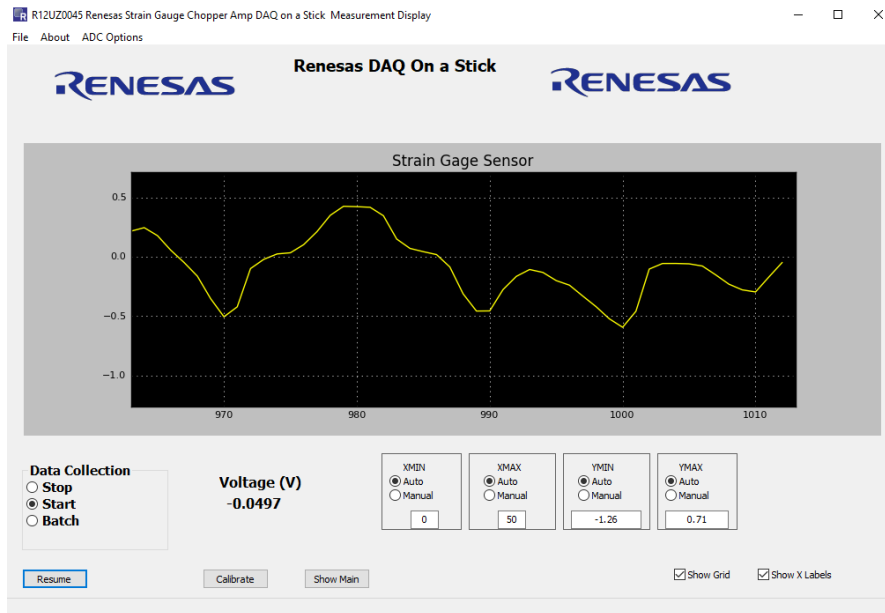

Figure 6. Measurement Display Screen
4. Click **Start** to go to the Measurement Display screen shown in Figure 6. The green LED on the board turns off.
Figure 6 shows the Measurement Display screen. From this screen, you can stop and start data collection, adjust the minimum and maximum X and Y axis, and go back to the setup screen by clicking Show Main. The Calibrate button zeroes out the voltage reading when the board is not under strain.